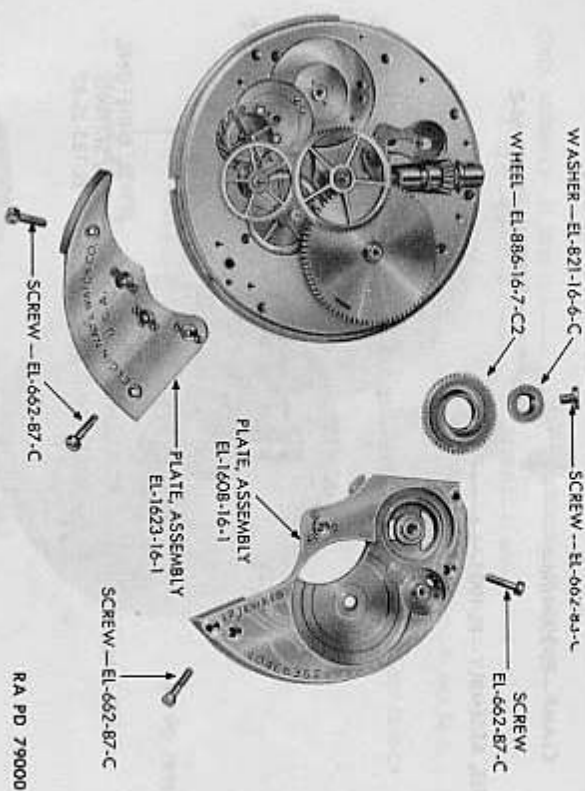

Figure 87 — Elgin Pocket Watch — Barrel and Train Bridge Assemblies Removed
p. Remove Bridges (fig. 87). Remove crown wheel screw, left-hand thread crown wheel, and washer. Remove barrel and train bridge screws and bridges. If bridges are tight, loosen by pushing up
- d. **Replace Bridges** (fig. 87). Replace barrel bridge assembly, aligning the pivot of the center wheel in its respective pivot hole in the barrel bridge. Secure the barrel bridge assembly in place with bridge screws. Replace train bridge assembly, aligning the third,